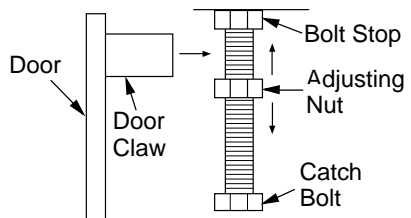

Figure 11 - Catch Bolt and Door Claw Orientation
10. Install door catch bolt (M8 x 1.25-55mm with two M8 hex nuts) into threaded hole on stove body (see Figure 7). Use an adjustable wrench or a 12mm socket. The catch bolt has two hex nuts attached to it (see Figure 11). The top nut is a bolt stop and the bottom nut is for door leveling adjustment.